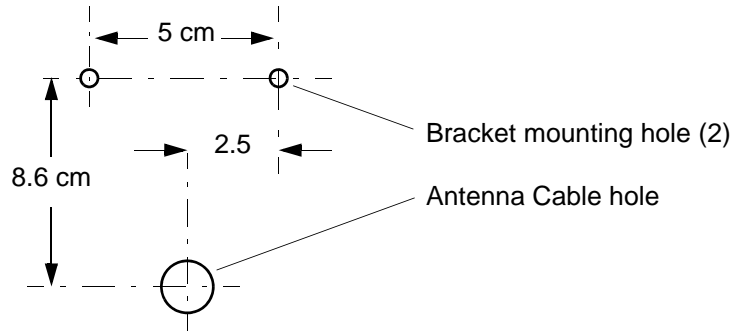

Figure 3-9. Hole Spacing
2.	Use Figure 3-9 to determine the spacing of the 2 holes for mounting the bracket, and the distance to the hole for passing the cable into the building.